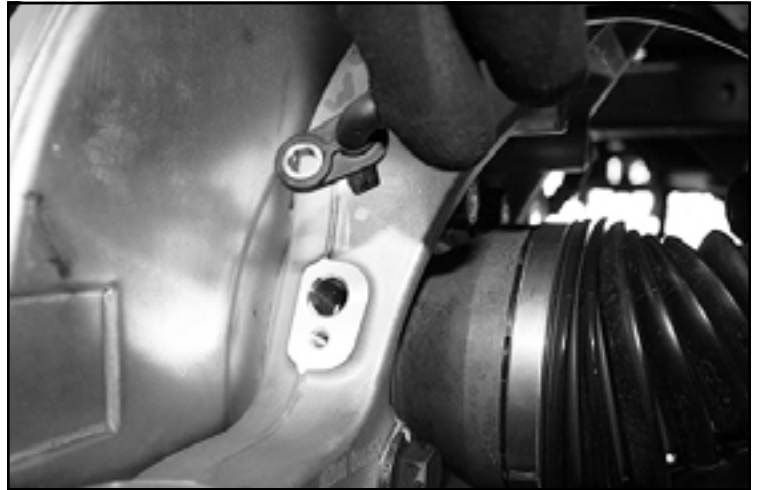

FIGURE 9 - STEP 7
7. Remove the ABS sensor from the factory knuckle. Save hardware. **SEE FIGURE 9**